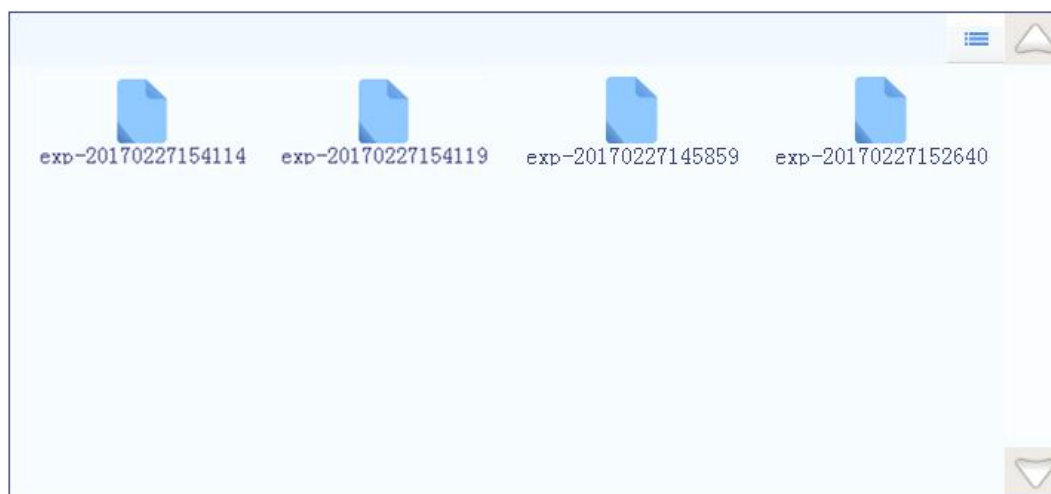

Figure E-2.1 Experiment File tab - Experiment file display area
- 1. Experiment File Displaying Area:** display the pre-existed experiment files or file folders within the instrument system, as shown in figure E-2.1.